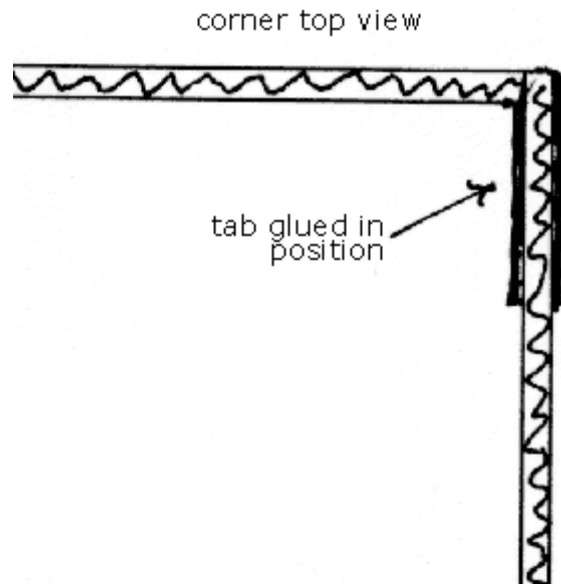

Figure 2
5. Polyvinyl acetate adhesive is applied to the inner surfaces of the triangular tabs and the tabs pressed into place against the outer and inner walls to secure the box (see figure 2 below)..